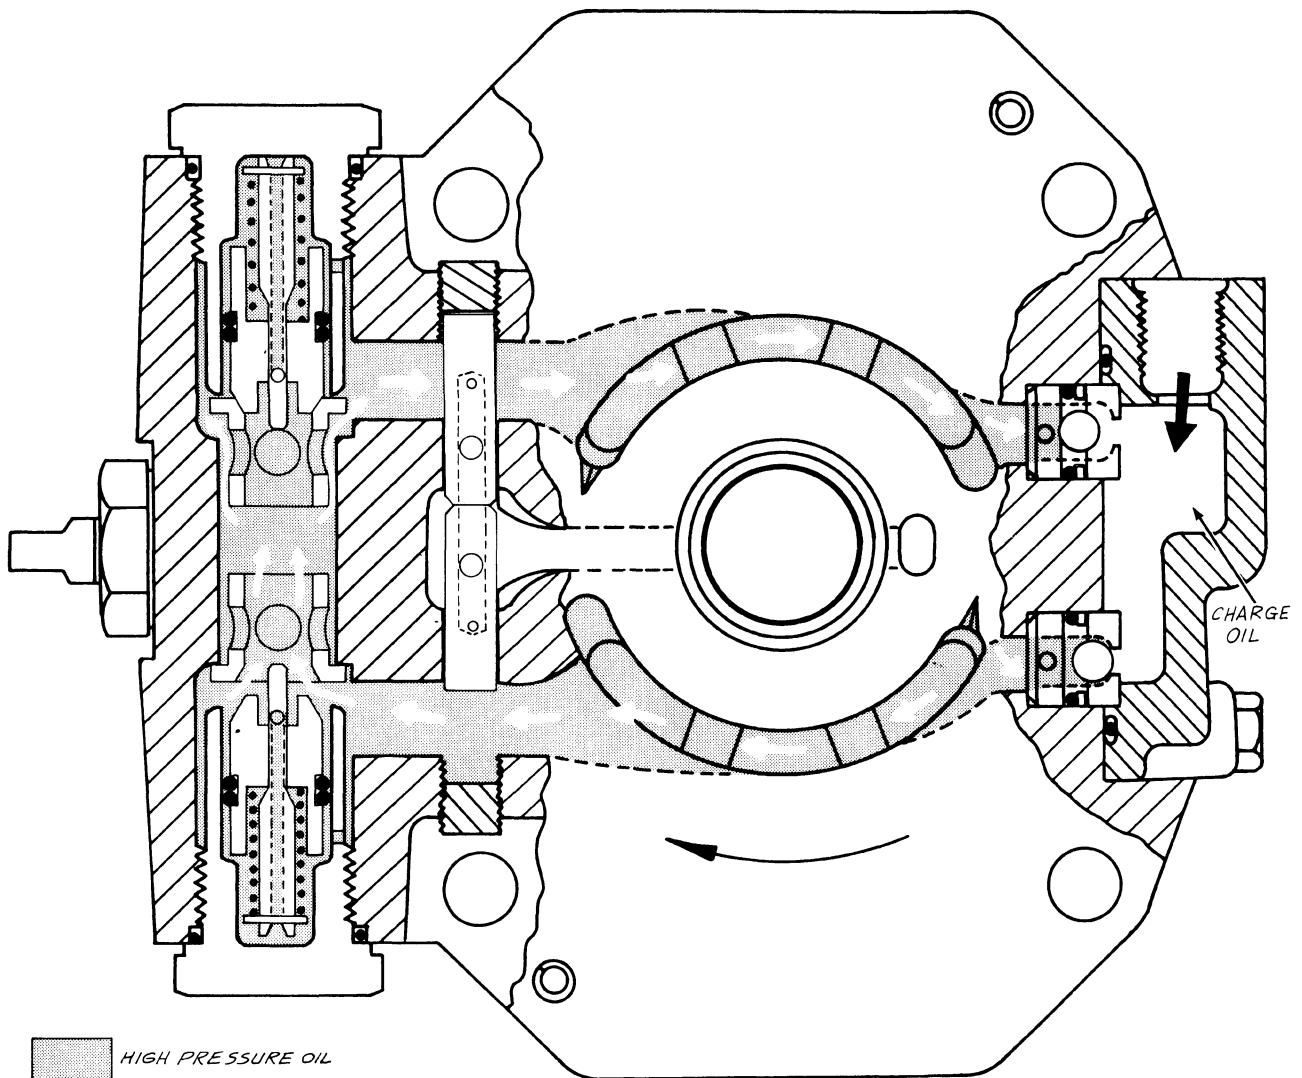

FIGURE 14
(7) Charge oil can still enter the closed loop to keep it filled and cause cooling, Figure 14. Bypassing the relief valve for long periods can overheat and damage the transmissions.